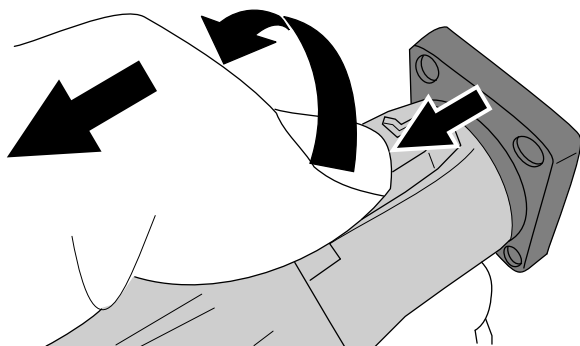

Figure 25
8. Slide back the button on the plug, turn the plug counterclockwise, and pull the plug out of the socket (Figure 25).